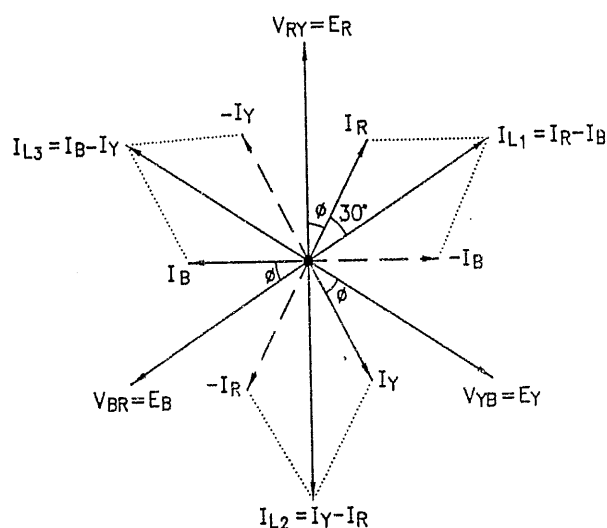

FIG. 2.85 : PHASOR DIAGRAM FOR DELTA CONNECTED SYSTEM
- Current in line 1 can be found as the vector difference of the two corresponding phase currents. This is shown in Fig. 2.85.
- For example, I_{L1} can be obtained by adding I_R and I_B reversed and its value is given by the diagonal of the parallelogram as shown in the Fig. 2.85.